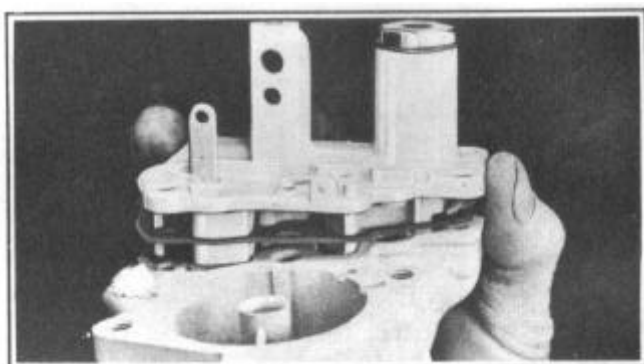

FIGURE 35
16. Install the bowl cover assembly, Figure 35. Pull the screws down evenly. Install idle passage plug and gasket assembly (center of bowl cover).